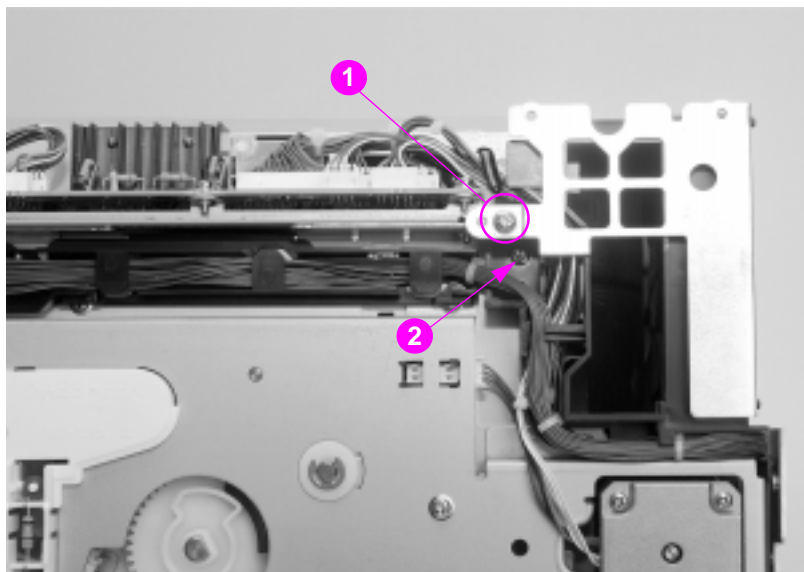

Figure 6-35 Large fan removal and replacement (2 of 2)
- 4 Remove the screw from the right rear fan shown in Figure 6-35 (callout 2).